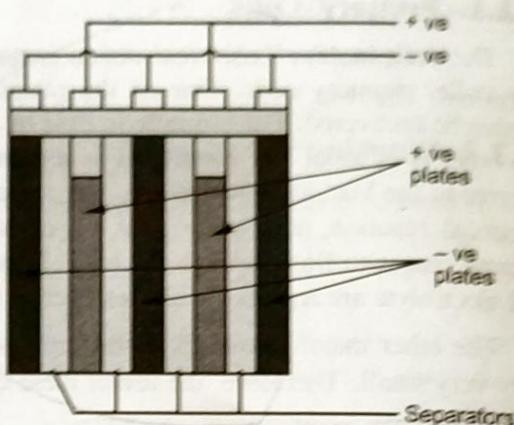

Fig. 3.4.
2. Plates : There are two types of plates. The positive plates and negative plates. The +ve plates of a fully charged cell consist of **Lead Peroxide (PbO_2)**. These appear dark chocolate in colour. The colour of negative plates is slate grey and these are **spongy lead (Pb)**. To increase the capacity of the battery, we use a large number of plates in each cell. The positive and the negative plates are alternatively placed and sandwiched with separators as shown in Fig. 3.4. One set of positive and negative plates forms a cell which produces an *e.m.f.* of 2.0 volt.